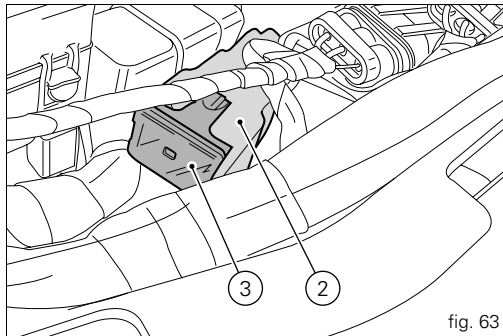

fig. 63
The 30 A fuse (2) on the side of the fusebox (fig. 63) protects the electronic voltage regulator.